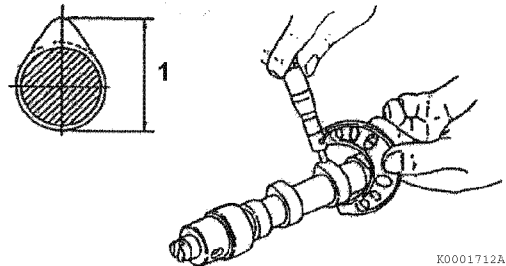

Figure 6-80
3. Measure the height of each lobe (Figure 6-80, (1)). Record the measurements. See Camshaft on page 6-6 for specifications.